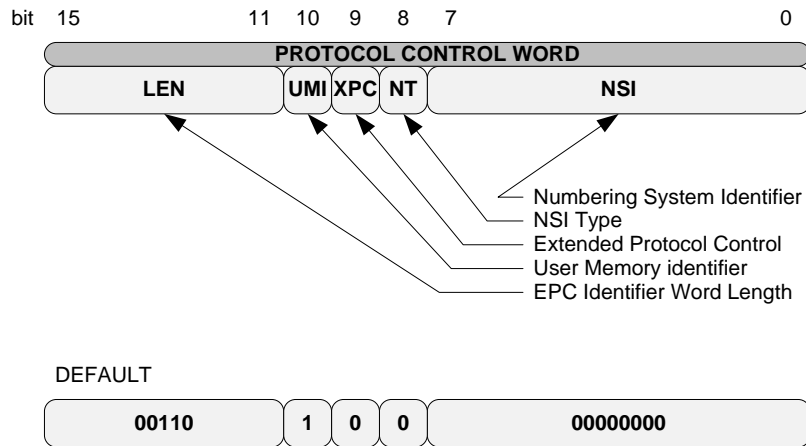

Figure 4. EPC Protocol Control Word
The EPC memory bank accommodates 8 words: 1 protocol control (PC) word, a 6-word (96-bit) memory space for an EPC identifier, and a 1-word CRC. The CRC word is calculated as part of the WM72016-6 power-on initialization routine and written into the EPC memory bank address 0x00. The PC and 6-word EPC identifier are completely programmable. The Protocol Control field is shown in Figure 4.